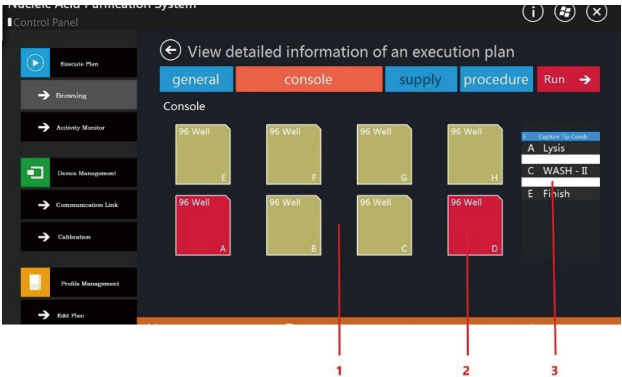

Figure 8. User Interface of Execution Plan Work Table Layout Information
As shown in Figure 8, when the user clicks the experimental cabin label in the content classification label of the execution plan, the system will display the layout of the experiment cabin required for the execution plan. ① in Figure 8 represents the layout of the instrument experimental cabin required for the execution plan. ② in Figure 8 is the plate position setting of the experimental cabin, and each plate position can be placed with a deep well plate. For example, the work table shown in Figure 8 adopts the layout of two rows and four columns with a total of eight plate positions, which are represented by different colors. The red one indicates that the plate position can be temperature controlled, the light yellow plate position shows that no temperature control is provided, while the light blue plate position refers to the currently selected plate position by the user. As the user clicks to select a plate position, the line corresponding to the plate position in the list shown in ③ in Figure 8 will also be highlighted to indicate the work to be conducted at this plate position required by the user in execution plan.